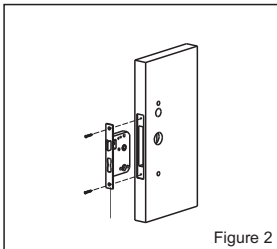

Figure 2
- As Figure 2:
- (1) Fix the mortise with 2 screws.